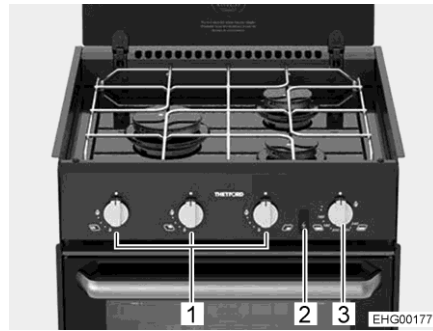
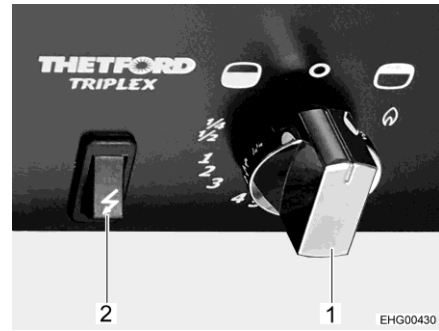

Fig. 170 Cooker with gas burners
Fig. 171 Operating controls (gas oven with grill)
- Press control knob (Fig. 170,1) of the desired burner, turn it to the ignition position (large flame), and hold it until the flame is burning (for a maximum of 15 seconds).
- Press the control knob (Fig. 170,3 and Fig. 171,1) and set it to the maximum setting anticlockwise (towards the oven symbol "🔥").
- Press the control knob (Fig. 170,3 and Fig. 171,1) and hold it down for 5 to 10 seconds. Gas will stream into the burner.
- Keep the ignition switch (Fig. 170,2 and Fig. 171,2) pressed until the flame burns.
- Press the control knob (Fig. 170,3 and Fig. 171,1) and turn it clockwise (towards the grill symbol "🔥") in the direction of the flame symbol.
- Turn control knob (Fig. 171,1) to "O". The flame fades.